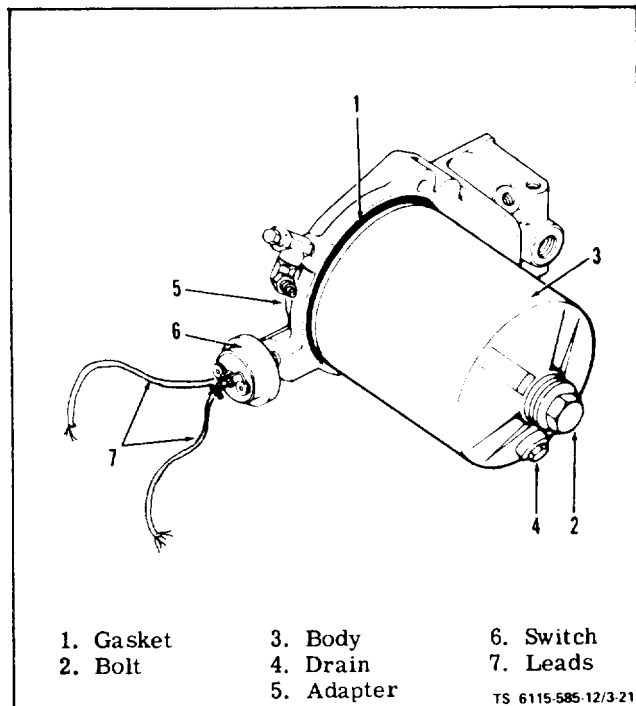

Figure 3-21. Oil Filter and Oil Pressure Switch
e. Oil Filter Assembly (see figure 1-1). Inspect oil filter assembly for dents or other physical damage. Check for leaks especially at gasket (1, figure 3-21) between body (3) and adapter (5) and between bolt (2) and body (3). Check to see that drain plug (4) is securely in place and does not leak.
f. Oil Pressure Switch (see figure 3-21). Inspect oil pressure switch (6) for dents or other physical damage. Check that switch is securely mounted to oil filter adapter (5). Check for leaks where switch (6) attaches to adapter (5). Check that both electrical connections (7) to switch (6) are tight and free of corrosion.